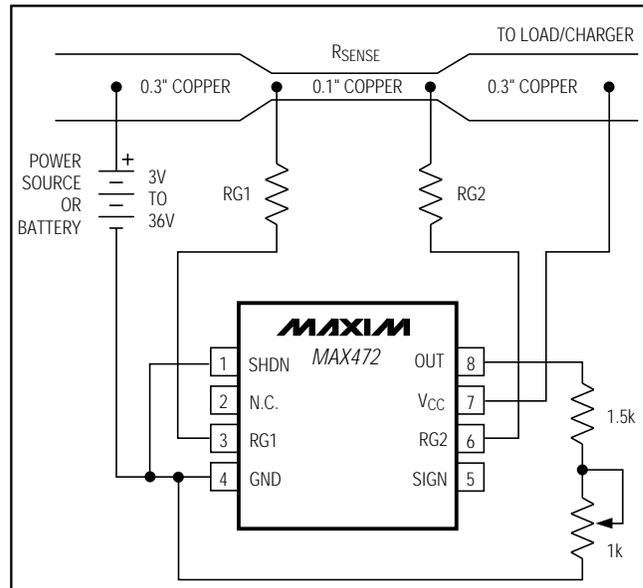

Figure 6. MAX472 Connections Showing Use of PC Board Trace
- e) **Cost:** If the cost of R_{SENSE} becomes an issue, you may want to use an alternative solution, as shown in Figure 6. This solution uses the PC board traces to create a sense resistor. Because of the inaccuracies of the copper "resistor," you will need to adjust the full-scale current value with a potentiometer. Also, the resistance temperature coefficient of copper is fairly high (approximately $0.4\%/^{\circ}C$), so systems that experience a wide temperature variance should take this into account.
In Figure 6, assume the load current to be measured is 10A and that you have determined a 0.3 inch wide, 2 ounce copper to be appropriate. The resistivity of 0.1 inch wide, 2 ounce copper is 30mΩ/ft (see Note 4). For 10A you may want $R_{SENSE} = 5\text{m}\Omega$ for a 50mV drop at full scale. This resistor will require about 2 inches of 0.1 inch wide copper trace.